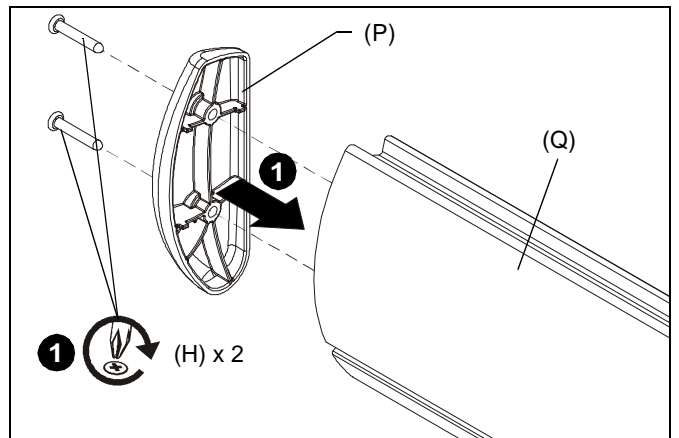

Figure 10
1. Fasten left end cap (P) to left end of wall mount (Q) using two 08 x 1" Phillips sheet metal screws (H). (See Figure 10)